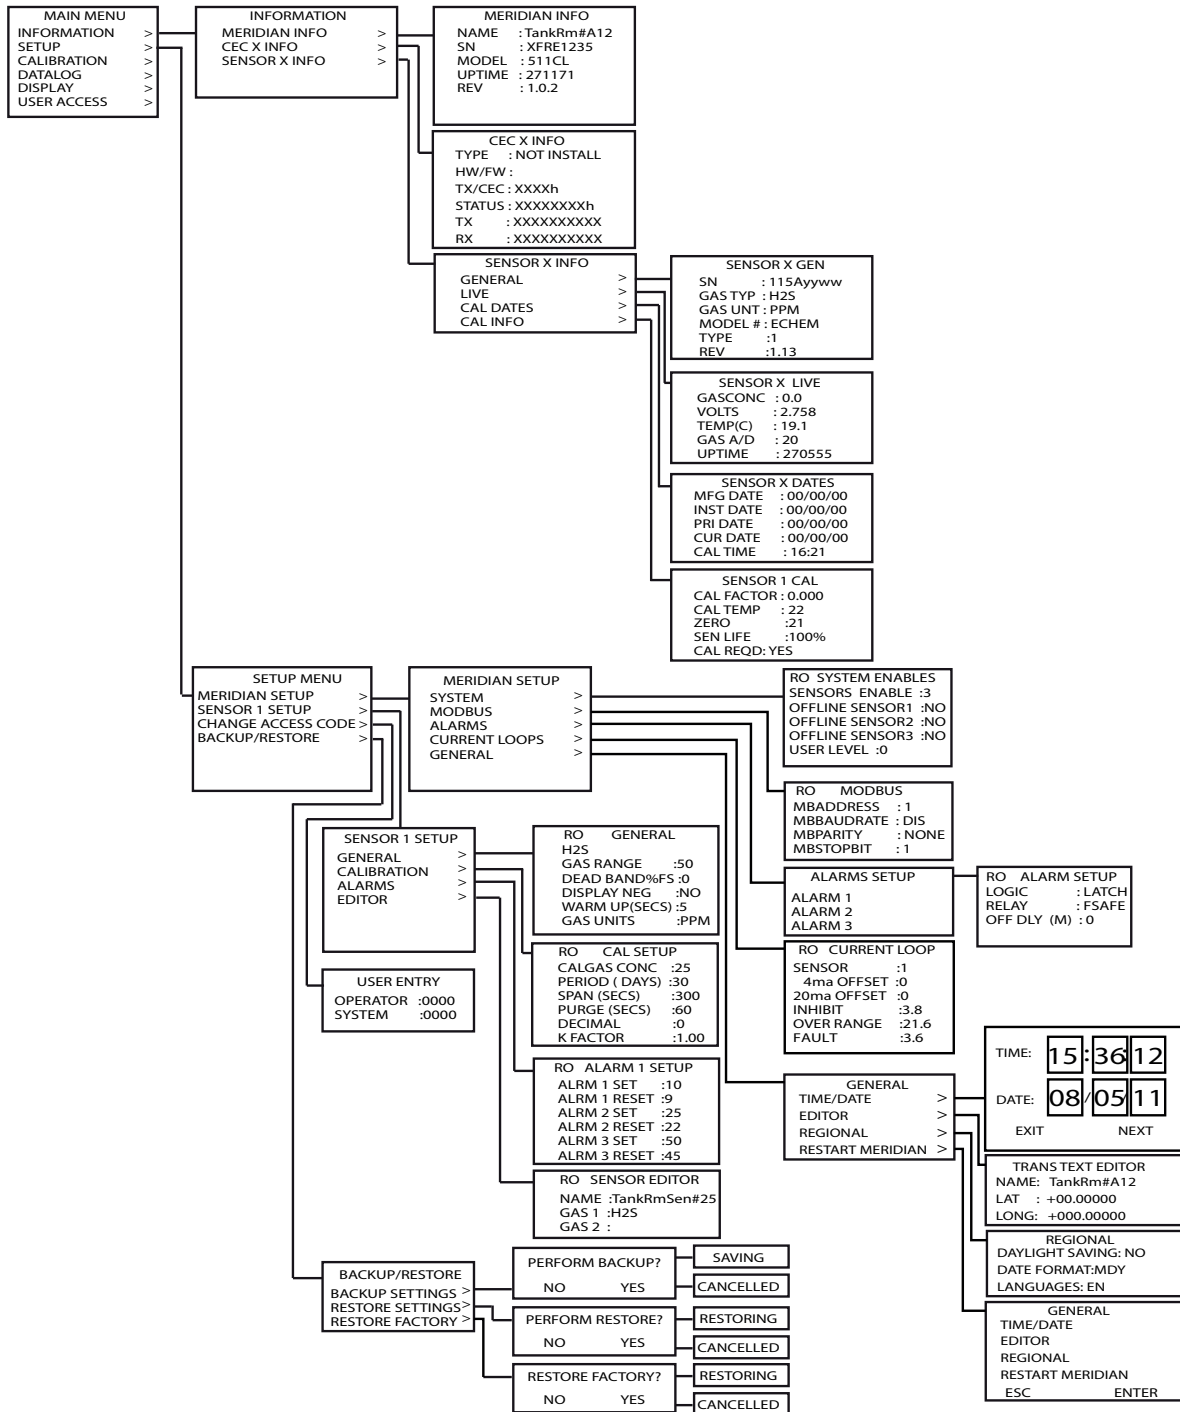
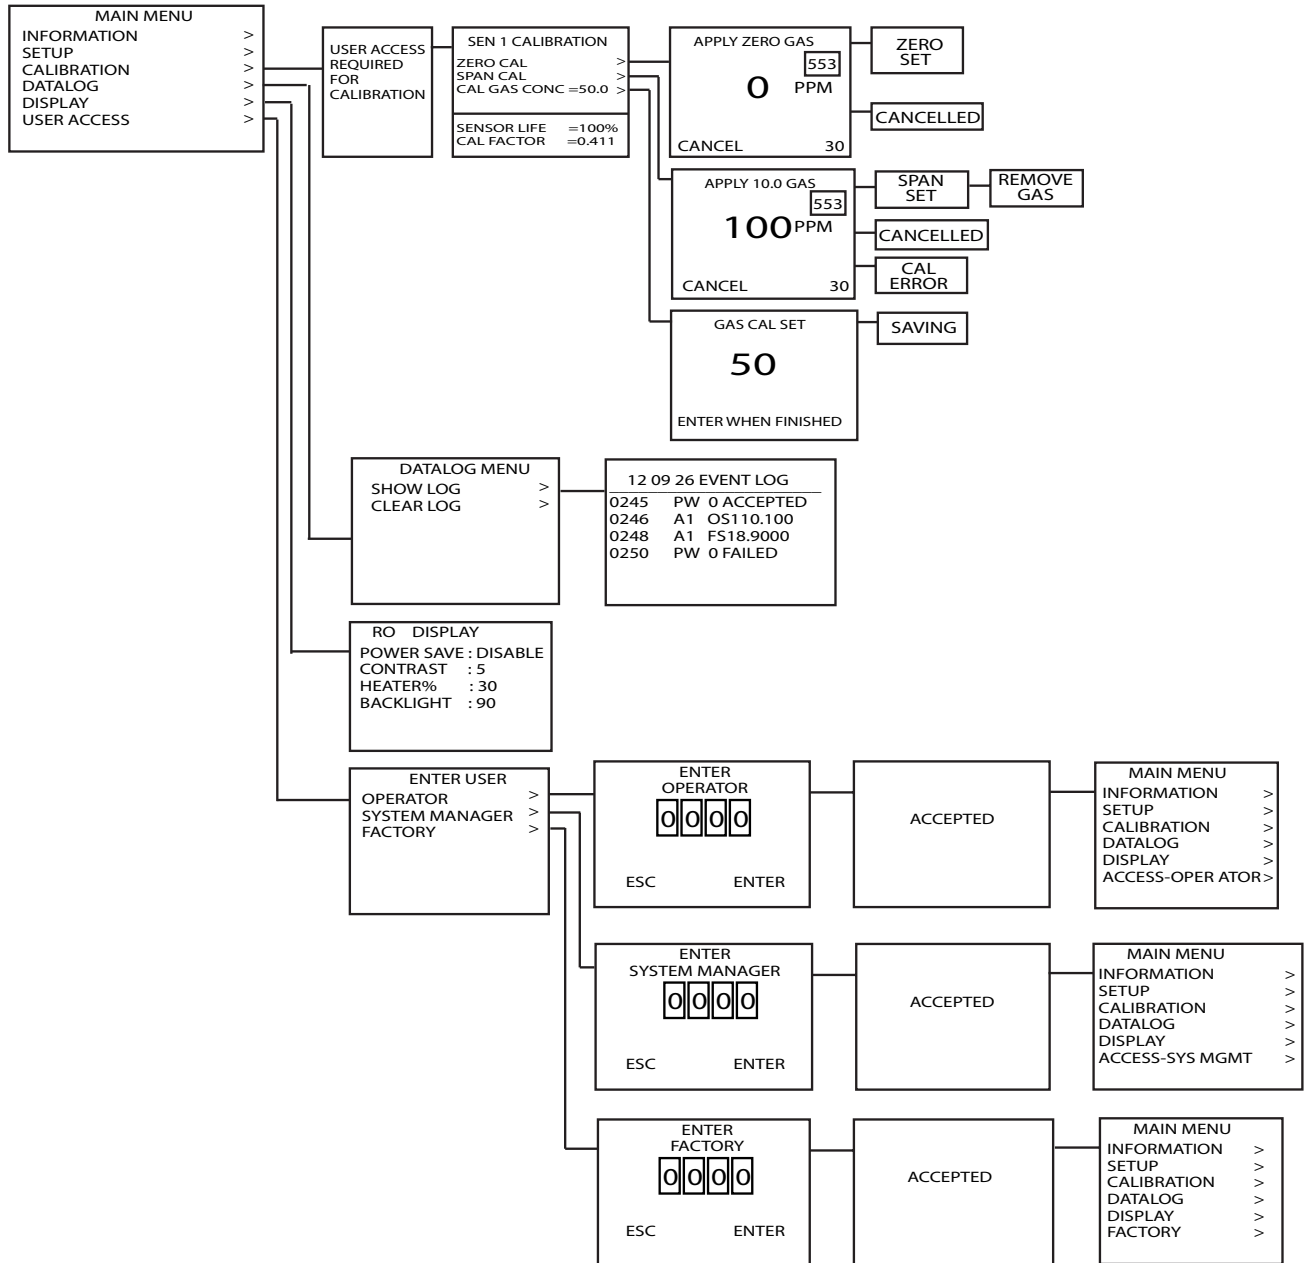
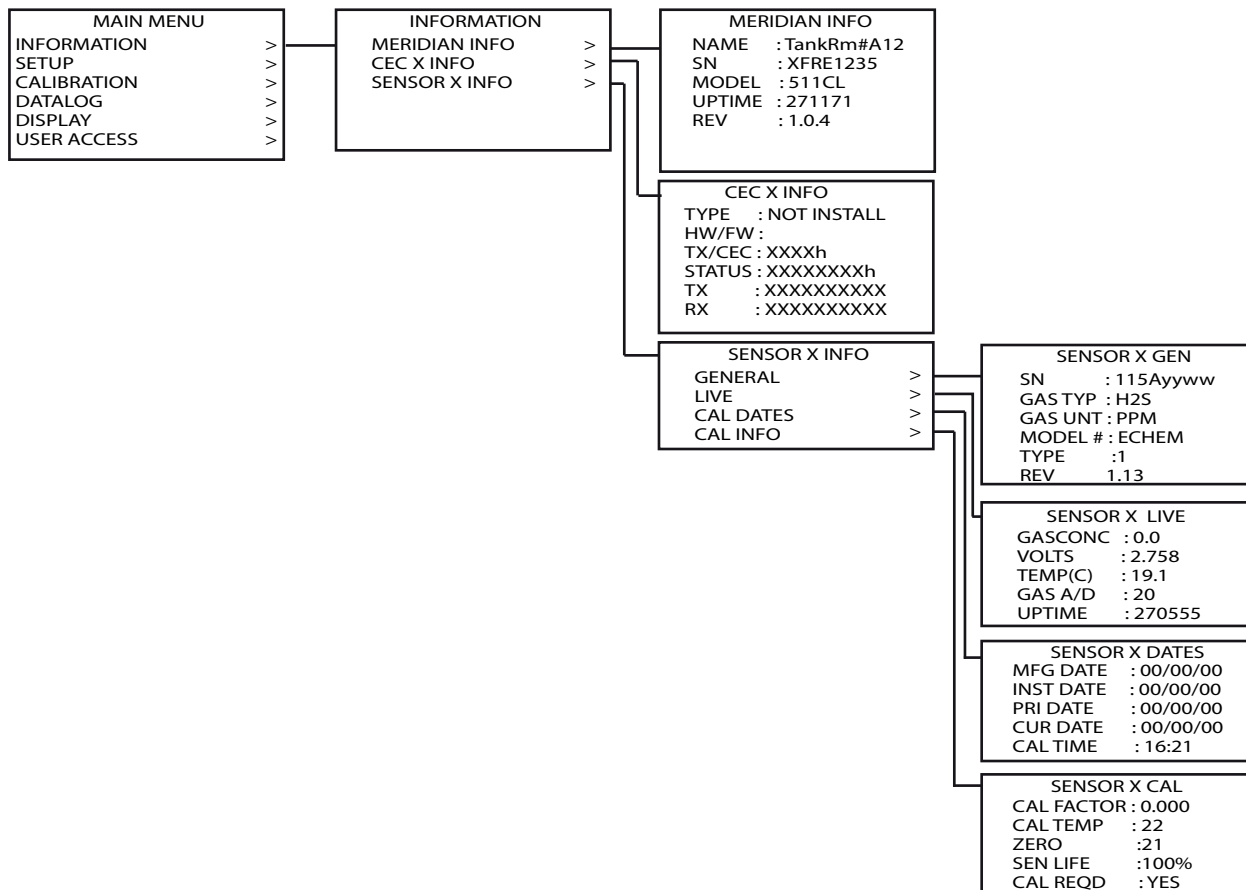
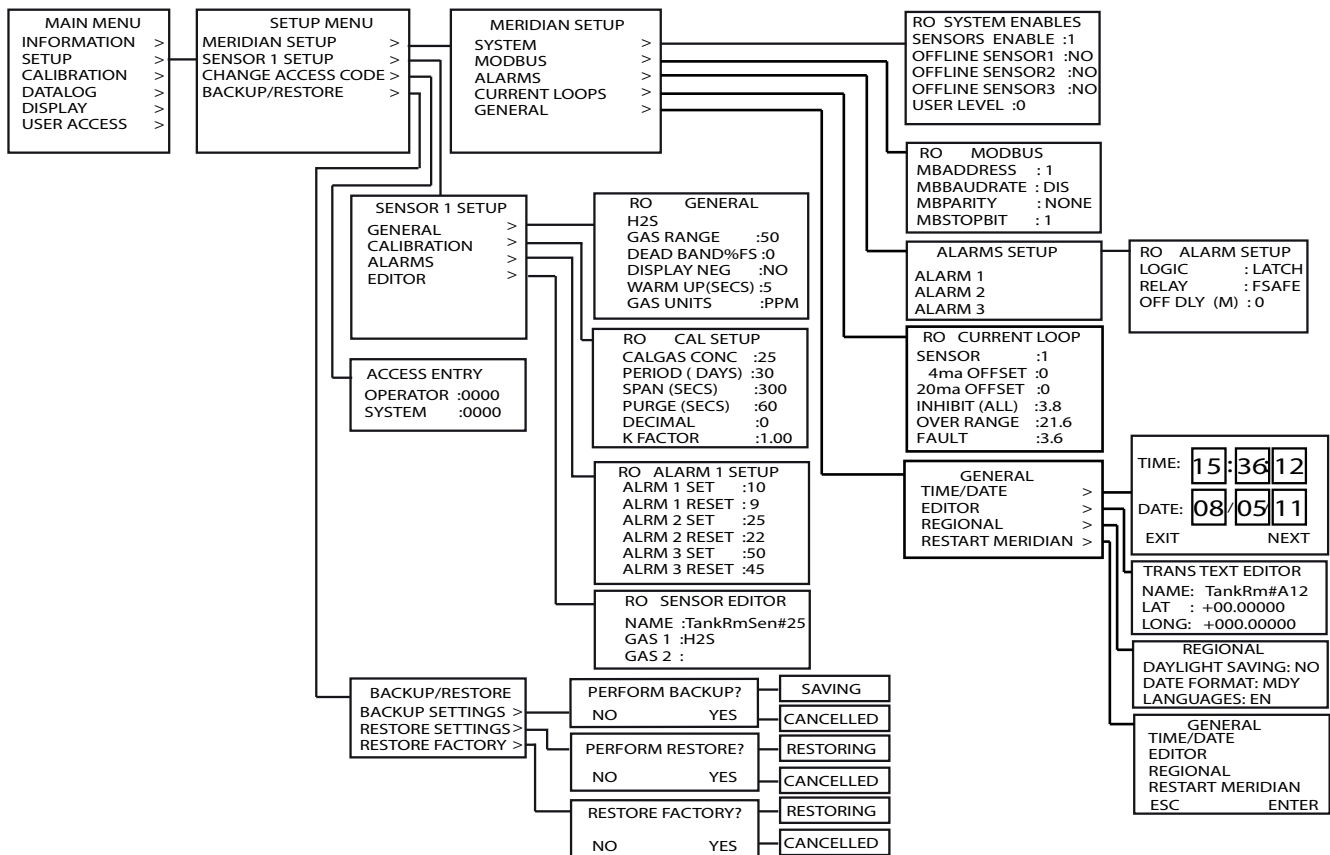

Figure 5-1: Configuration Menu Structure – Sheet 1 of 2
Figure 5-2: Configuration Menu Structure – Sheet 2 of 2
Figure 5-3: Information Menu Structure
Figure 5-4: Setup Menu Structure
Figure 5-1: Configuration Menu Structure – Sheet 1 of 2 and Figure 5-2: Configuration Menu Structure – Sheet 2 of 2 outline the entire configuration menu structure. The configuration menu structure of a device is divided into six (6) menu trees. They are: Information (see Figure 5-3: Information Menu Structure), Setup (see Figure 5-4: Setup Menu Structure), Calibration (see Figure 5-5: Calibration Menu Structure), Datalog (see Figure 5-6: Datalog Menu Structure), Display (see Figure 5-7: Display Menu Structure) and User Access (see Figure 5-8: User Access Menu Structure).
Access to certain value entry menus and individual parameters are restricted and denoted by RO (Read Only) located in the top left hand corner of the menu screens. They require a user access. Refer to Figure 5-1: Configuration Menu Structure – Sheet 1 of 2, Figure 5-2: Configuration Menu Structure – Sheet 2 of 2, and Table 5-1: Information Menu Parameters to Table 5-9: User Access Menu Parameters.
Use the magnetic keys to navigate through the menu structure as necessary. See Figure 5-3: Information Menu Structure. The parameters are detailed in Table 5-1: Information Menu Parameters.
Use the magnetic keys to navigate through the menu structure as necessary (refer to Figure 5-4: Setup Menu Structure, Table 5-2: Transmitter Setup Menu Parameters, Table 5-3: Sensor X Setup Menu Parameters, Table 5-4: Change user Access Setup Menu Parameters, and Table 5-5: Backup/Restore Setup Menu Parameters).